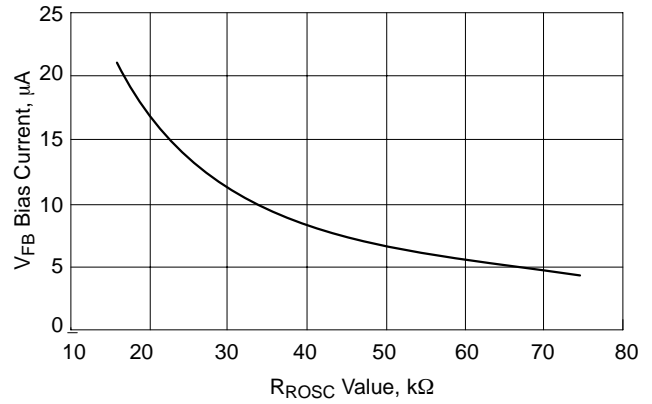

Figure 4. V_{FB} Bias Current vs. R_{ROSC} Value
2. The V_{FB} Bias Current changes with the value of R_{ROSC} per Figure 4.
To set the no-load positioning, a resistor (R_9) is placed between the output voltage and V_{FB} pin. The V_{FB} bias current will develop a voltage across the resistor to decrease the output voltage. The V_{FB} bias current is dependent on the value of R_{FB} , as shown in Figure 4.